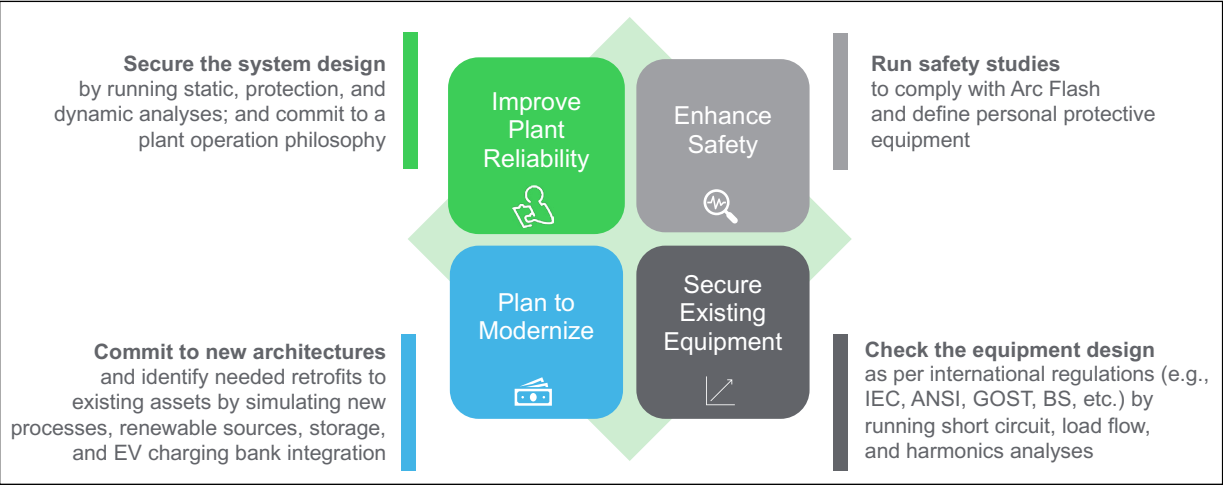

Figure 14. Analyses that an electrical system digital twin facilitates for the fab's electrical distribution system
Step 2: Conduct electrical studies and design: Leverage the digital twin to improve efficiency, resilience, sustainability, and reliability. Figure 14 illustrates the sort of analyses that this facilitates.